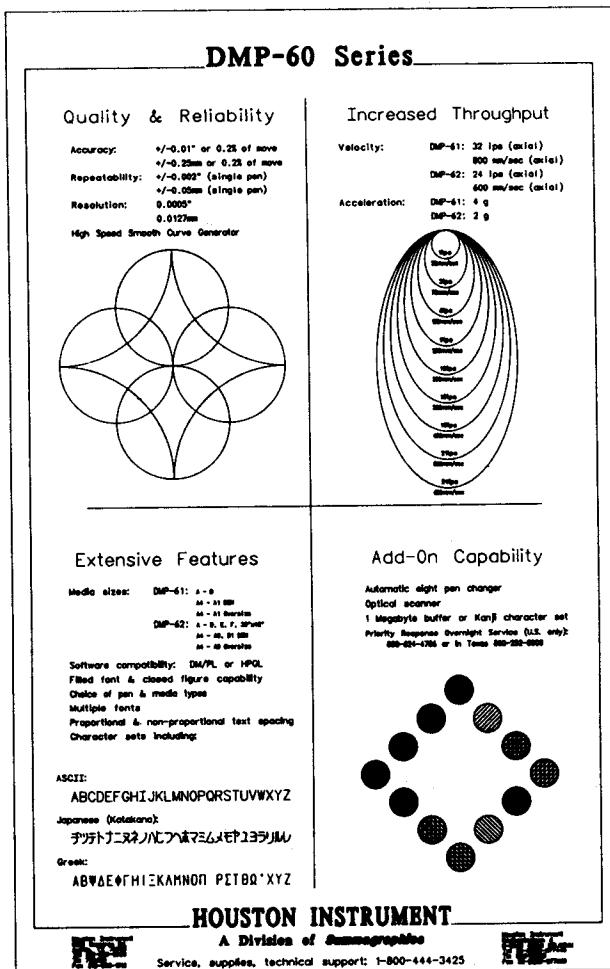

FIGURE 0-6. CUSTOMER CONFIDENCE TEST PLOT
- Simultaneously press the control panel ▼ and ▲ keys to start the customer confidence test plot. Refer to Figure 0-6.